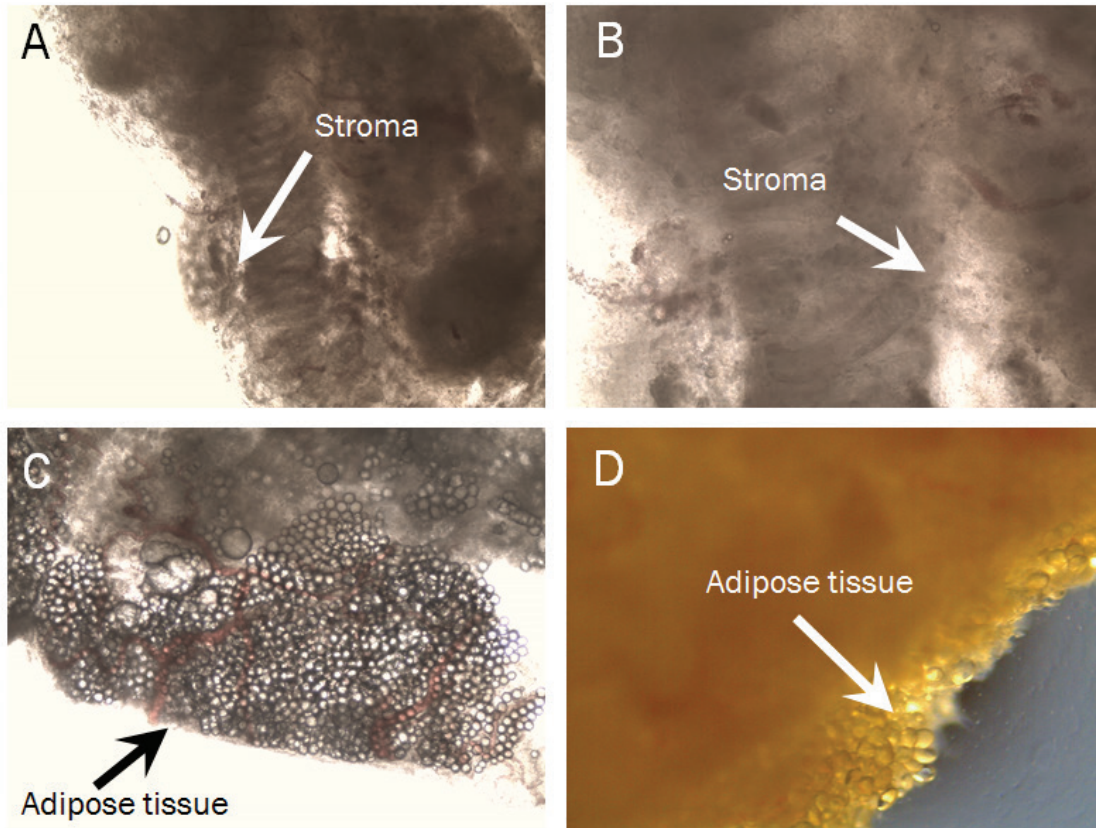

Figure 4: Identification of Stroma and Adipose Tissue in a Human Intestinal Tissue Biopsy.
- View liberated epithelial tissue under high magnification. Hold with forceps and examine tissue for remaining stroma and adipose tissue (**Figure 4**). Carefully remove the stroma and adipose tissue with fine forceps and/or angled dissecting scissors. At this step the tissue may begin to dissociate. Be sure to collect all epithelial tissue and keep stroma tissue separate.